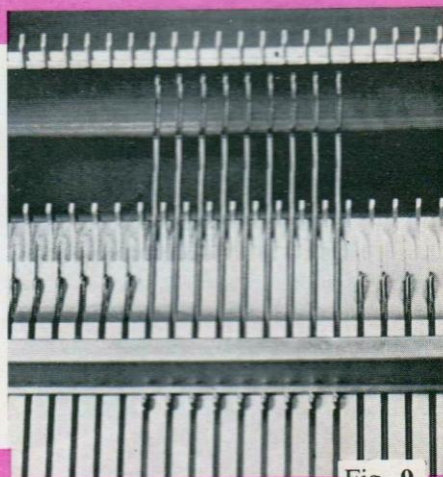

Fig. 9
- 4 Holding position—The heel of the needle rests against the top slide rail (Fig. 9).